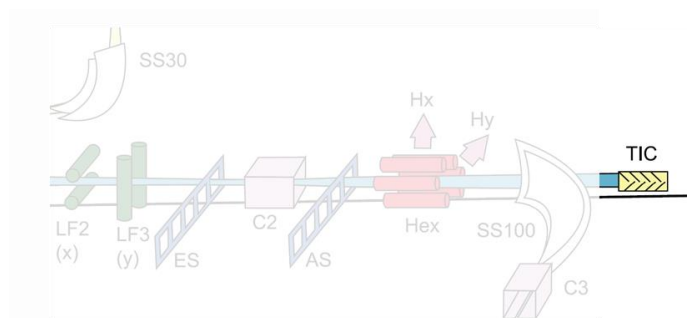

Figure 98: position of the Total Ion Current detector (TIC)
At the end of the matching optics (Figure 98), the beam can be directed toward an additional detector, the Total Ion Current detector (TIC). This detector is an electron multiplier (EM) identical to the EMs in the multicollection chamber (see chapter 2.1.4.3 for details).